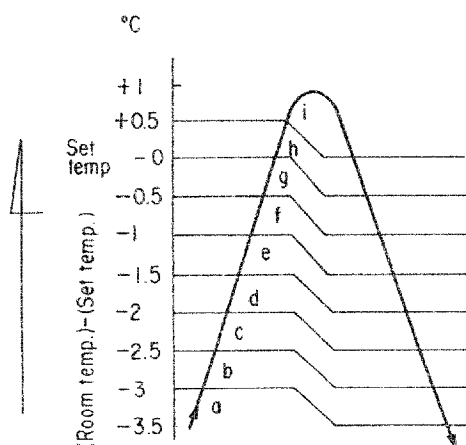

Fig. 6
- The heating capacity is controlled by changing the compressor speed as shown in Fig. 6 according to both the difference between the temperature detected by the room temperature sensor and the temperature setting made by the THERMO button and also the change in room temperature.